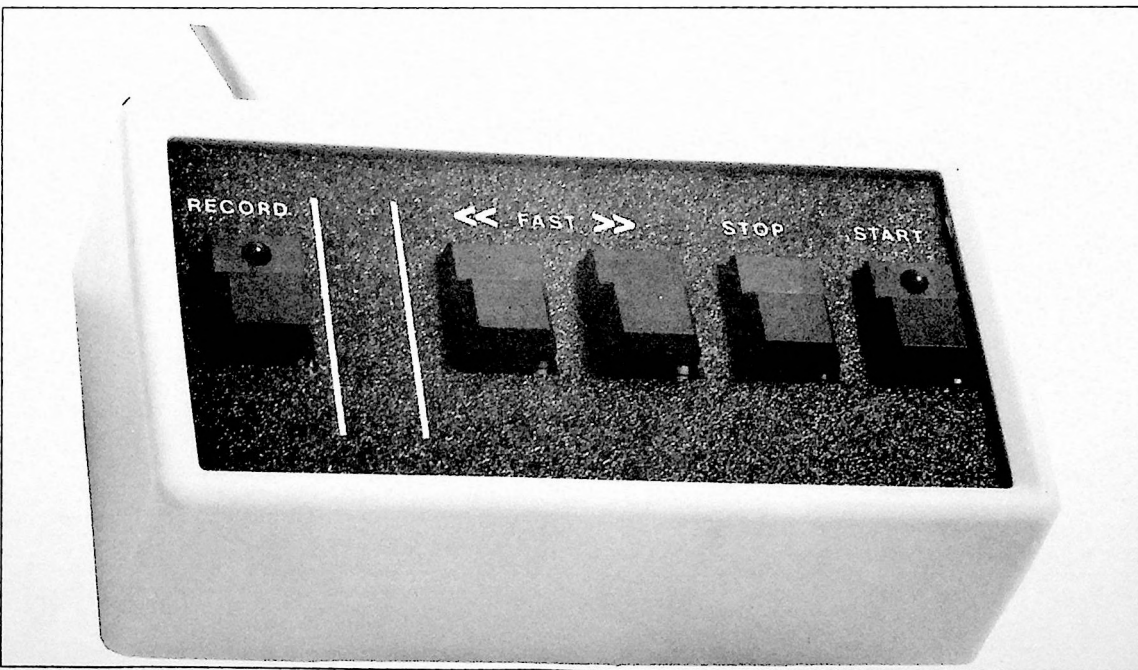

Figure 3-5. Remote Control Unit (250 Series)
3.17 A Remote Control unit is available as an accessory for both 250 and 255 Series. The Remote Control unit plugs into J103 REMOTE CONTROL connector located on the rear of the Power Supply and Control chassis. The Remote Control unit for the 255 Series contains identical function control switches that are on the transport control panel. When the remote control unit is plugged in its control switches are connected in parallel with the transport control panel switches, and the transport can be controlled from either the local panel or remote unit. The Remote Control unit for the 250 Series is identical to the remote control unit for the 255 Series except it has an added switch - RECORD, which functions in parallel with the RECORD switch on the recorder transport control panel. Figure 3-5 shows a typical Remote Control unit for the 250 Series.